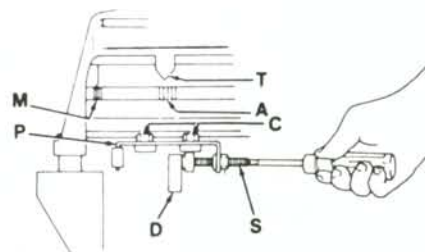
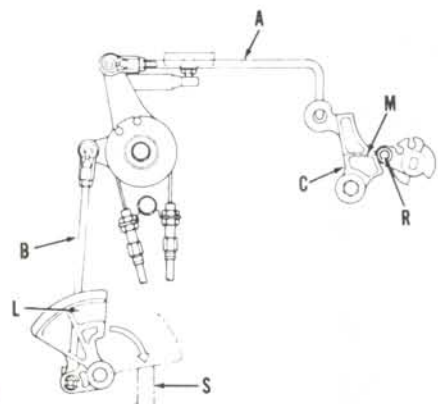

Fig. SZ11-8—Adjust idle speed timing and maximum advance timing as outlined in text.
Fig. SZ11-6—View of speed control linkage. Adjust components as outlined in text.
Place twist grip in the full closed position. Stator plate stopper (P—Fig. SZ11-8) should be in contact with cylinder block boss (D). Adjust rod (A—Fig. SZ11-6) length until mark (M) on throttle cam (C) is centered with roller (R). Rotate twist grip to the full throttle position. Stator plate stopper should be in contact with cylinder block boss. Adjust rod (B) length until throttle limiter (L) contacts stopper (S) on bottom engine cover.
To check ignition timing, first immerse lower unit of outboard motor in water. Connect a suitable tachometer to engine. Connect a power timing light to upper spark plug. Start engine and allow it to run until it reaches normal operating temperature. Shift into forward gear and note ignition timing. Timing pointer (T—Fig. SZ11-8) should be aligned with 2 degree ATDC mark (A) on flywheel. Loosen locknut and rotate screw (S) until idle speed timing is as recommended. Maximum advance timing should be 25 degrees BTDC (M) at 5000 rpm. Stop engine and loosen cap screws (C) and slide stator plate stopper (P) in slots to adjust maximum advance timing. Retighten cap screws (C) after recommended maximum advance tim-